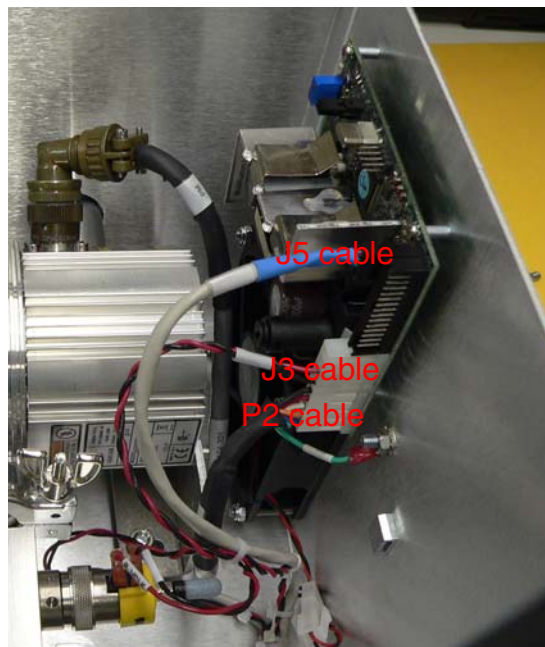

Figure B-24 Turbo Board Connections
4. Disconnect the following cables (Figure B-24):
7. Reconnect the following cables (Figure B-24 on page B-17):